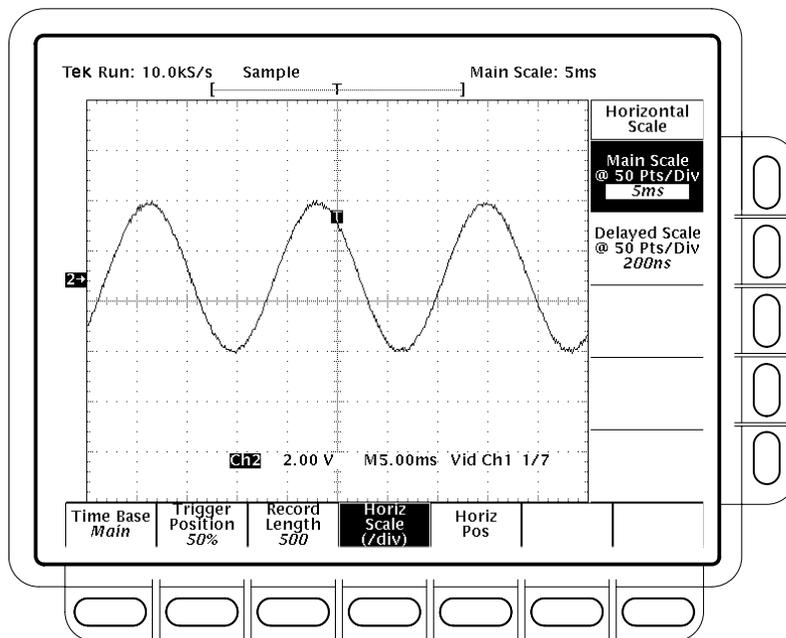

Figure 4-32: 60 Hz Rejection test setup signal
- Adjust the signal generator for three vertical divisions of 60 Hz signal. See Figure 4-32. The signal will not be triggered. That is, it will run free.